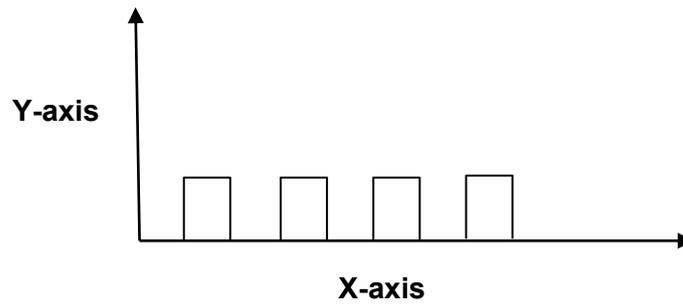

Fig. 1
- 1 (a) Fig. 1 shows a typical electronic input signal.
- (i) State the type of signal shown in Fig.1.
- (iii) What does the X-axis represent in Fig. 1?
- (iv) What does the Y-axis represent in Fig. 1?